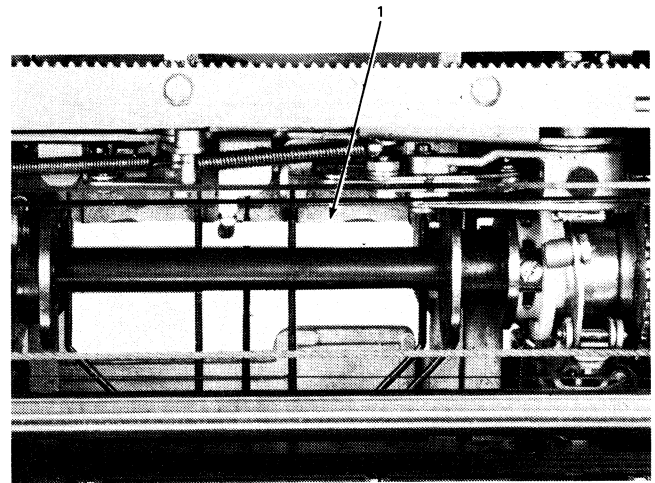

Figure 4-39. Cycle Shaft Removal
2. Force the positive bail down with a screwdriver (No. 1, Figure 4-39), making sure all the latches are under the bail. Insert a fluted wrench through the lower left bearing plate mounting hole, over the top of the bail, to hold it down. Do not remove the positive bail restoring spring.